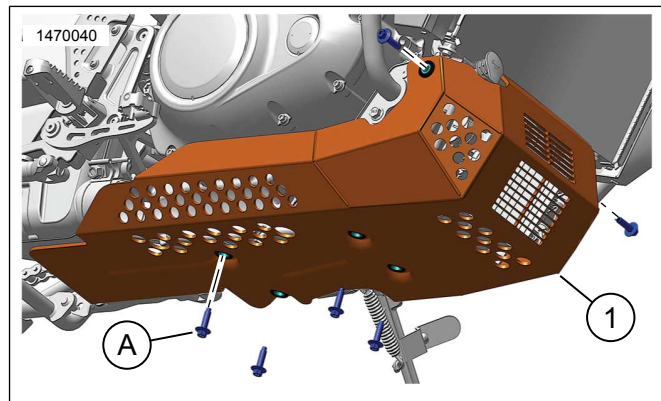

Figure 3.
1. See Figure 3. Position **new** skid plate (1) assembly.